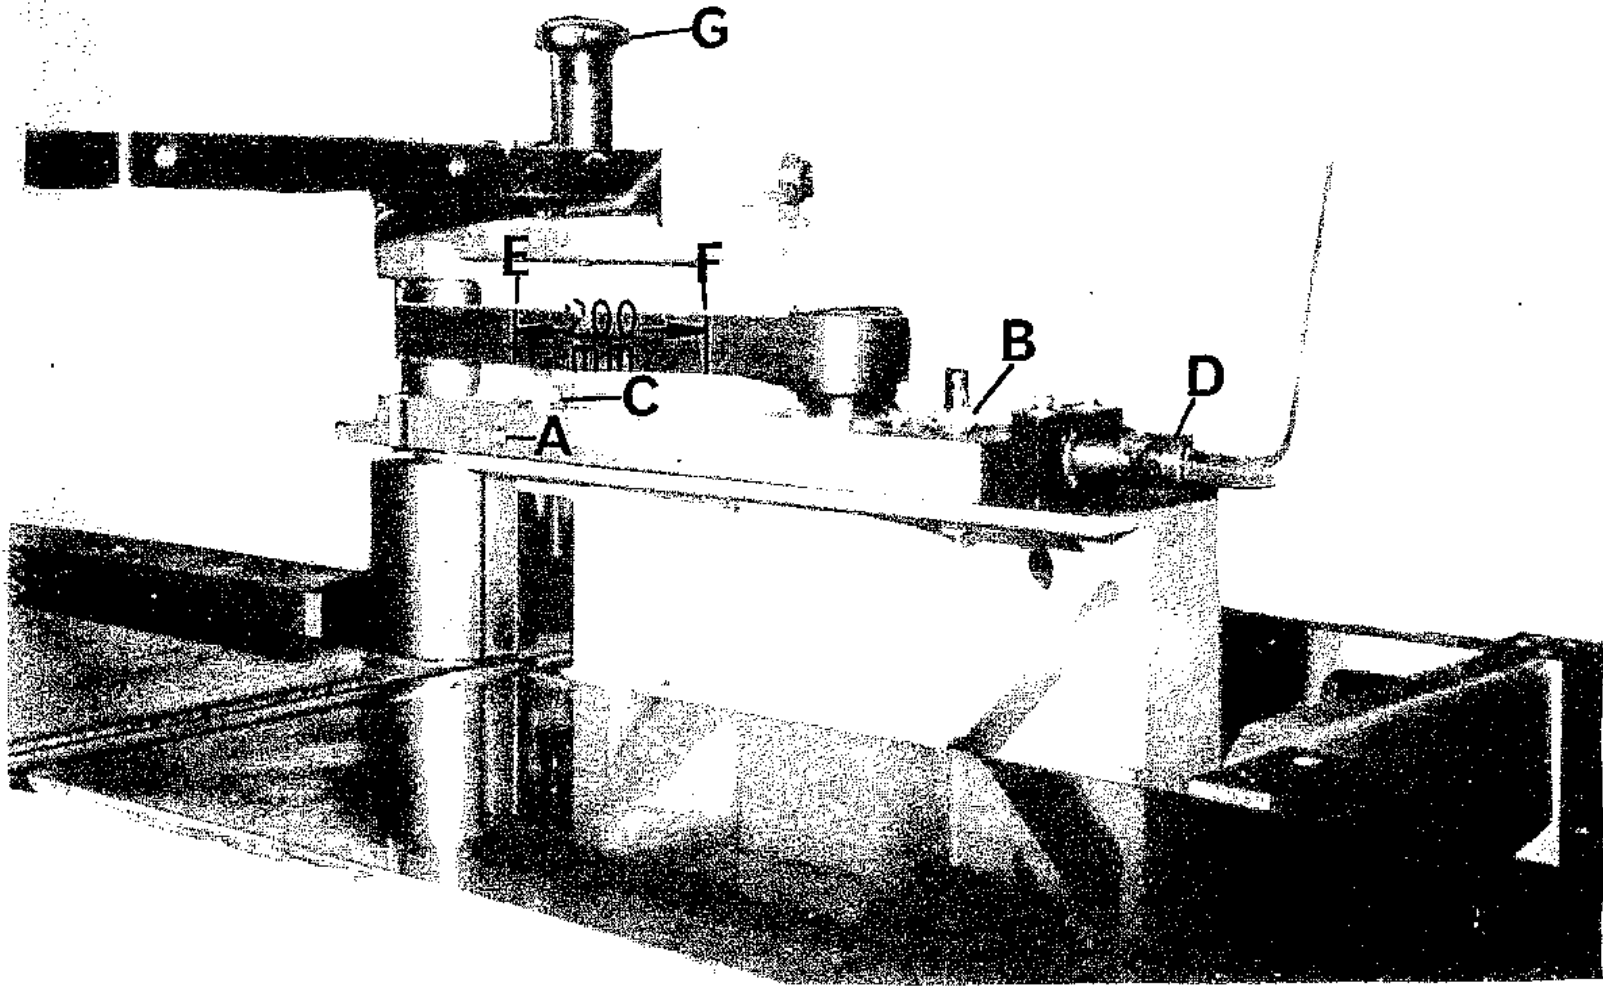

FIG.32
- f) Loosen grub screw "A" FIG.32 on planer side only, 1 full turn.
- g) Loosen 1 - M12 nut "B", 2 - M10 hexagon head bolts "C" FIG.32 (1 either side of housing) and using allen key, adjust caphead screw "D" to tension belt.
- h) Correct tension will have been achieved when 200mm can be measured between points "E" and "F" FIG.32 on belt.
IMPORTANT: DO NOT REMOVE LOCKING HANDWHEEL "G" FIG.32 WHEN FEED UNIT IS REMOVED.
- i) Loosen grub screw "A" FIG.32 on planer side only, 1 full turn.
- j) Loosen 1 - M12 nut "B", 2 - M10 hexagon headbolts "C" FIG.32 (1 either side of housing) and using allen key "D" release tension.
- l) Tension belt by caphead screw "D" FIG.32. Correct tension will have been achieved when 200mm can be measured between points "E" and "F" FIG.32 on belt.